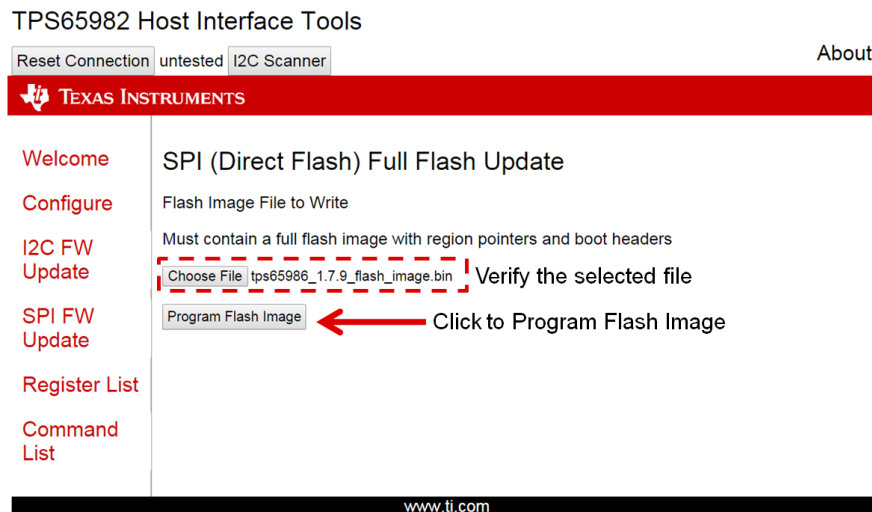

Figure 18. SPI Firmware Update—Start Flash Update
- Step 3. Click the *Program Flash Image* button (see Figure 18).